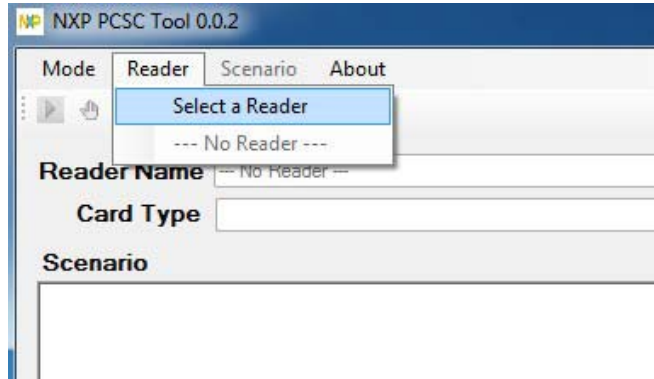

Figure 3-7: NXP PCSC Tool – Reader Selection
Step 6: Choose **Select a Reader** from the Reader menu (Figure 3-7).